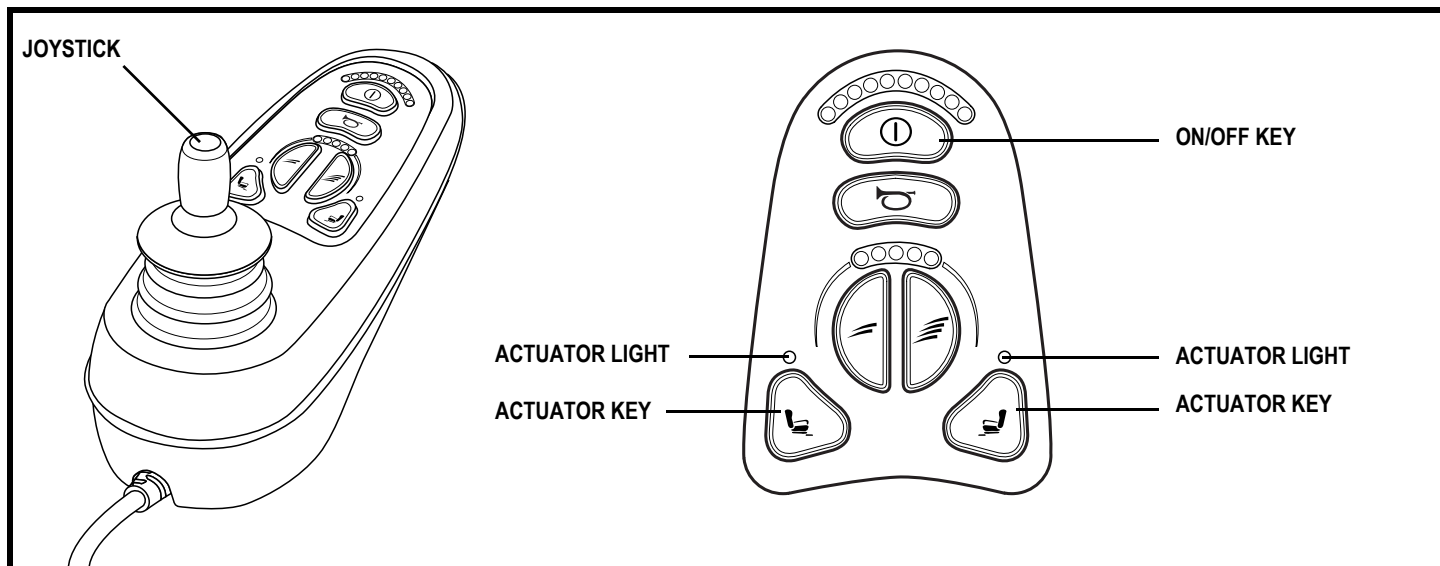

Figure 18. VR2 6-key Controller and Keypad
1. Push the on/off key to power on the chair and the controller. See figure 18.
2. Push the desired actuator key to select actuator mode. See figure 18.
5. Push the on/off key to return to drive mode. See figure 18.